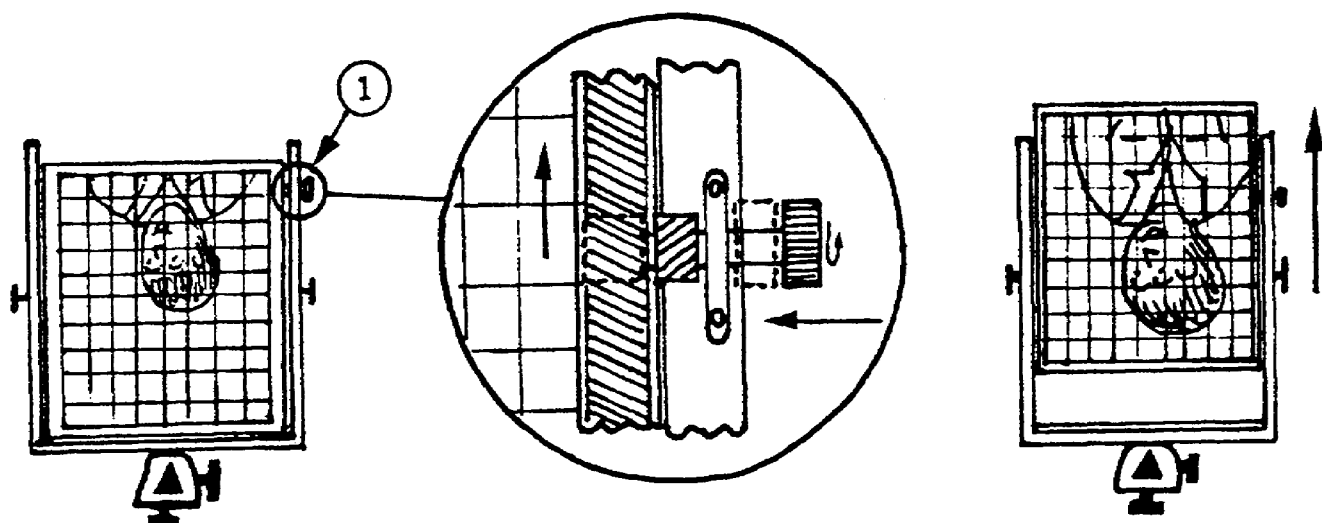

Figure 1-35. Image placement.
(1) To eliminate undesirable foreground or background from the photograph, or to eliminate wasted space at the top or bottom of image, raise or lower the lens board mounting plate by pushing in and rotating the spring-loaded pinion knob 1 (fig 1-35), until the desired degree of elimination is achieved.